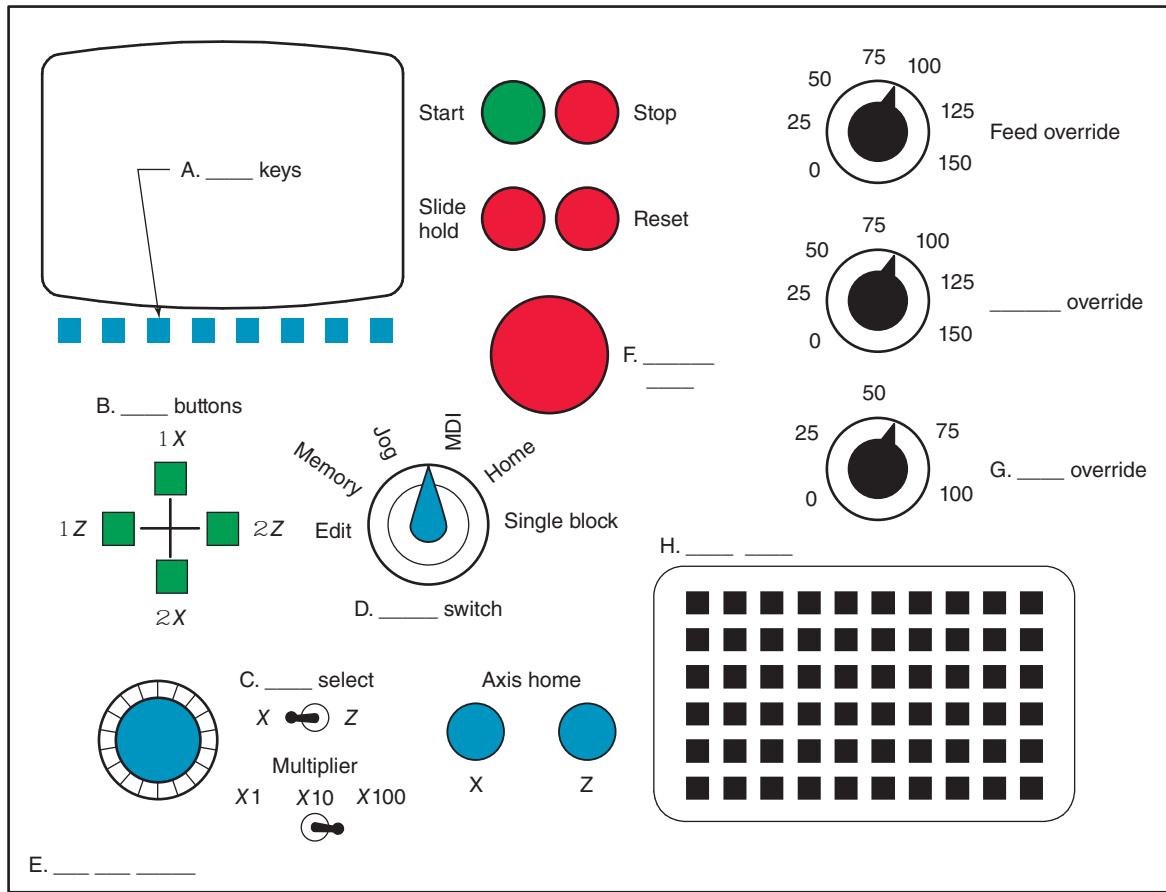
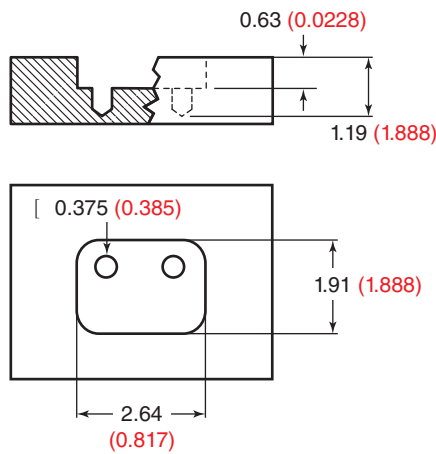

Figure 24-33 Problem 20.
Figure 24-34 Problem 27. What can be done to correct these dimensions?
20. Label the CNC controls A through H on the PVC controller shown in Fig. 24-33 and describe the function of each. (19)
21. What would happen during an autocycle if you push or turn (19)
22. List as many categories of vital information found in a CNC setup document as you can recall. These are vital to both operator and setup person. (19)
23. List two kinds of compensated profile mill programs and give a brief description of each. Which is the most common and why? (20)
24. During an autocycle, several errors can cause alarms. List and describe them. (20)
25. Safety question—*vital*. Name and describe the three levels of operator intervention for problems. Under each level, name one or two methods of stopping the run to make the fix. (20)
26. Name at least three or four methods of monitoring a production CNC machine run. (20)
27. You have produced the part shown in Fig. 24-34 on a CNC machining center with T0101 \pm 0.500-in. diameter, two flute end mill for the pocket, and T0202 \pm 0.375-in. drill. Actual measurements after machining are shown in red (brackets). What must be adjusted to bring the part into target nominal, PRZ, or offsets? (Note, no tolerance is given for this problem.) (20)
28. There are many factors to consider when planning out an efficient, safe CNC program. Beyond machine type, name the three most critical. (21)
29. Define the following planning and setup terms: (21)